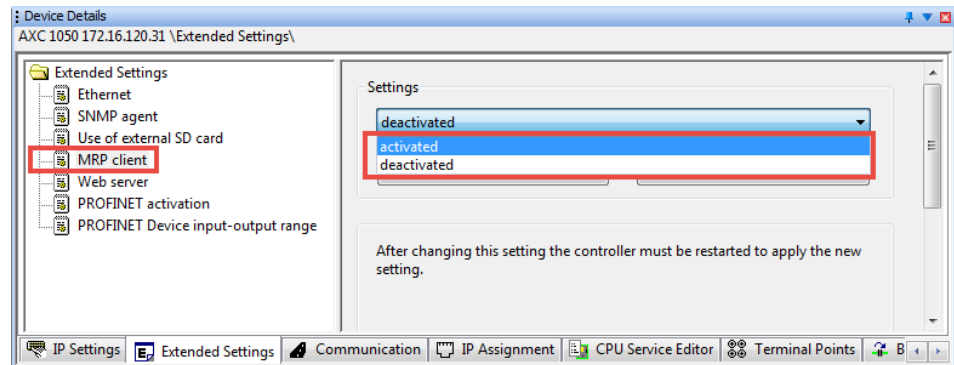

Figure 7-19 Activating or deactivating the MRP client function
- Click on the "Send" button (hidden by the drop-down list in Figure 7-19) to send the setting to the controller.
- Click on the "Read" button (hidden by the drop-down list in Figure 7-19) to query the setting.